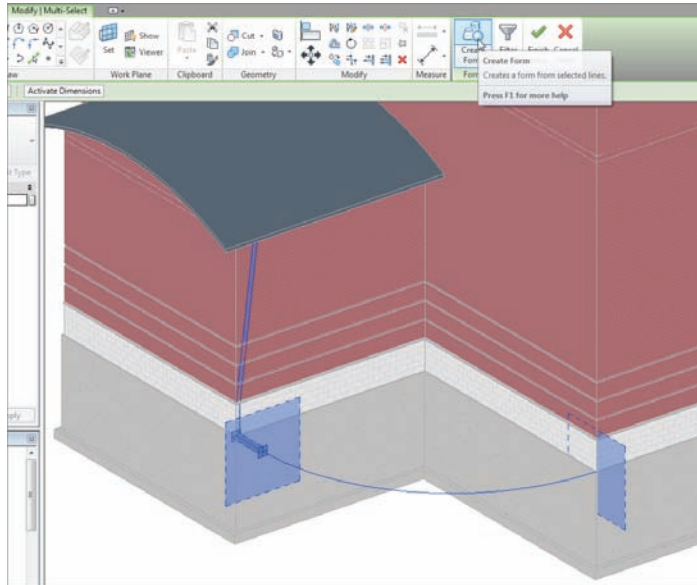

FIGURE 16.46 Selecting the objects and creating the form
6. Click the Create Form button, as shown in Figure 16.46.